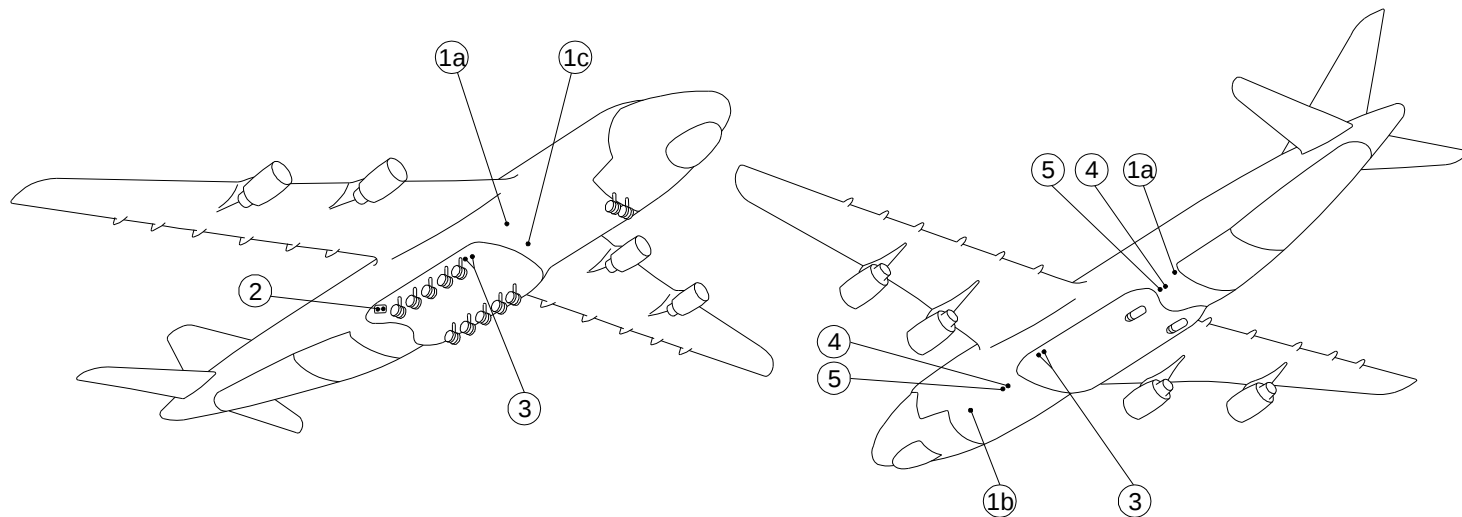

Figure 10. Placement of ground handling draw-off points (bottom view) for AN-124-100(-150)
- Figure 10. Placement of ground handling draw-off points (bottom view) for AN-124-100(-150).